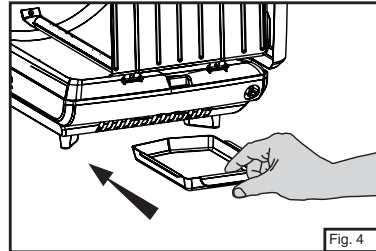

Fig. 4
- Install drip tray below right side of grill. (Fig. 4)